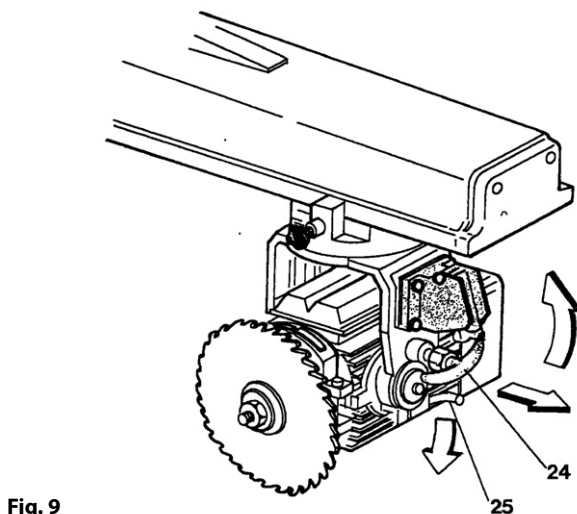
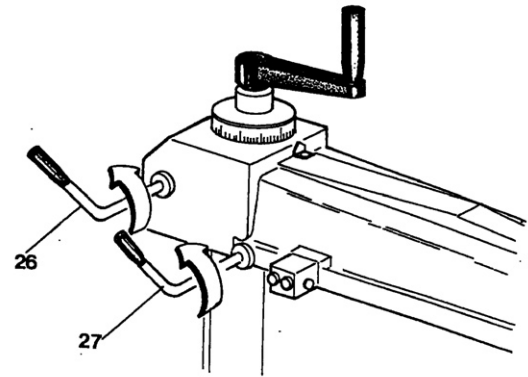

Fig. 9
Fig. 10
- 1) release the handle (25) (see fig. 9), pulling the lever (24) towards the operators so that the motor is released and rotate it in a vertical position until the lever (24) is inserted in its seat. To obtain radial rotation of the arm, disengage the lever (27) and loosen the locking lever (26) (see fig. 10).